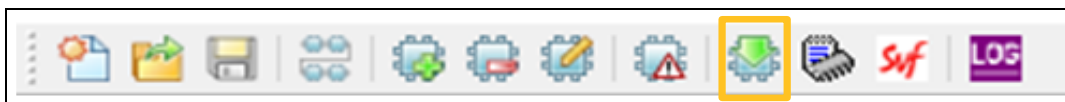

Figure 6.29. Program Device Toolbar Icon
- Click the **Program Device** toolbar icon to load the bitstream into the board, as shown in Figure 6.29.